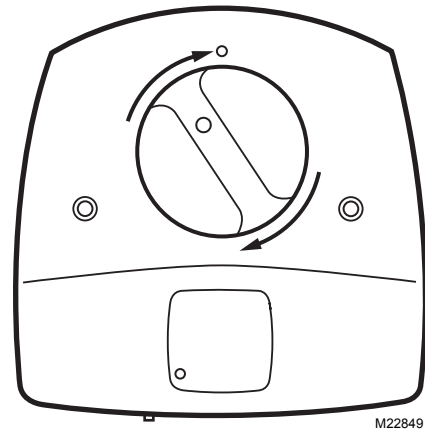

Fig. 15. Snap lamp handle into place.
8. Rotate the lamp handle clockwise until it snaps into place with the lamp light indicator aligned with the raised button on the unit cover. See Fig. 15.